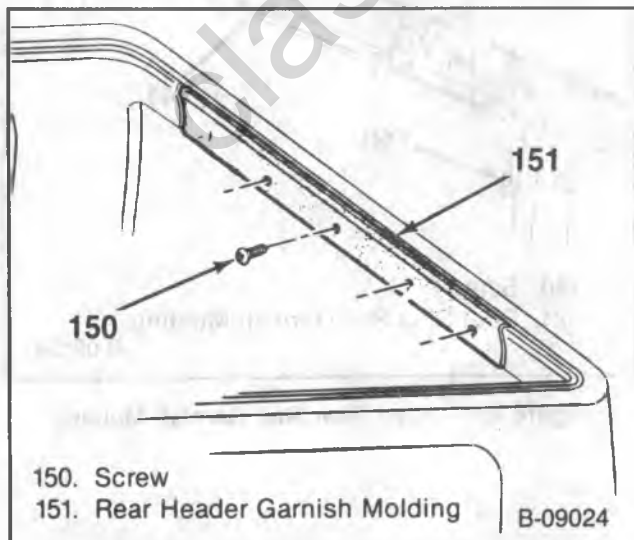

Figure 52 — Rear Header Garnish Molding
9. Roof rear header garnish molding screws and the molding (figure 52).
6. Roof rear head garnish molding and screws (figure 52).